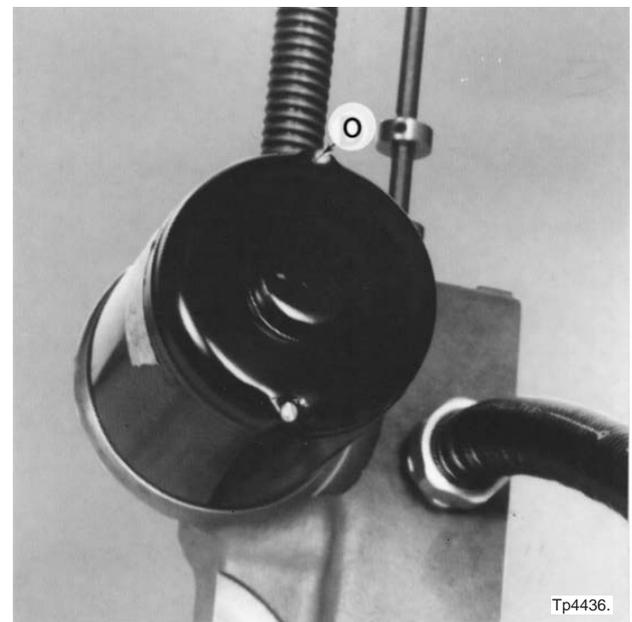

Figure 3.30 - Speed Change Motor
5. Remove two screws "O", Figure 3.30, and remove the motor.
4. Replace motor and two screws “O”, Figure 3.30 .